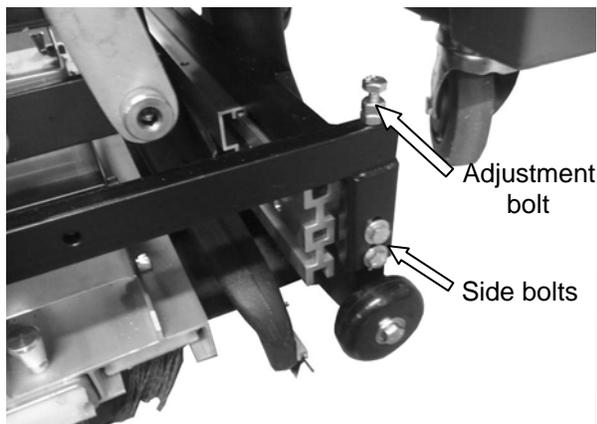

Fig. 8
10. Once the Kleenrite 2240 is in its cleaning position and the leveling described in step 9 above is completed, note the distance from the bottom of the vacuum head to the movable tread. It is important that this distance be within 1/8" (3mm) so the vacuum head can remove the debris from the tread. This is accomplished by adjusting the two small guide wheels on both sides of the Kleenrite 2240 (Figure 8). This usually only needs to be done once for a given escalator.
11. To adjust this height, pull the Kleenrite 2240 out of the treadwell where it can easily be adjusted. Loosen the two side bolts shown in figure 8 and turn the adjustment bolt clockwise to raise the head or counter clockwise to lower it.